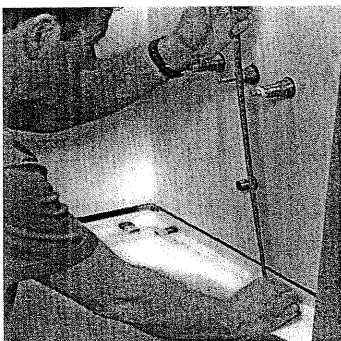

Figure 4
*Measure the distance from the top of a shim on the tub ledge to the center of each pipe*. See figure 4. Write down your measurements.